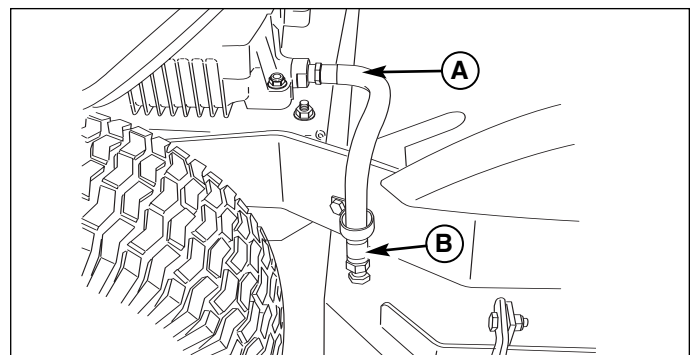

Figure 4. Oil Drain Hose Location
4. Using the appropriate tools, turn the oil drain valve (B, Figure 4) counter-clockwise to open the valve and drain the engine oil.